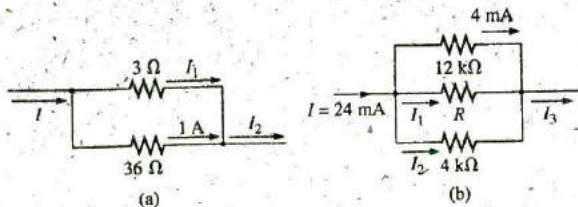

FIG. 6.103
34. Find the unknown quantities for the networks in Fig. 6.103 using the information provided.